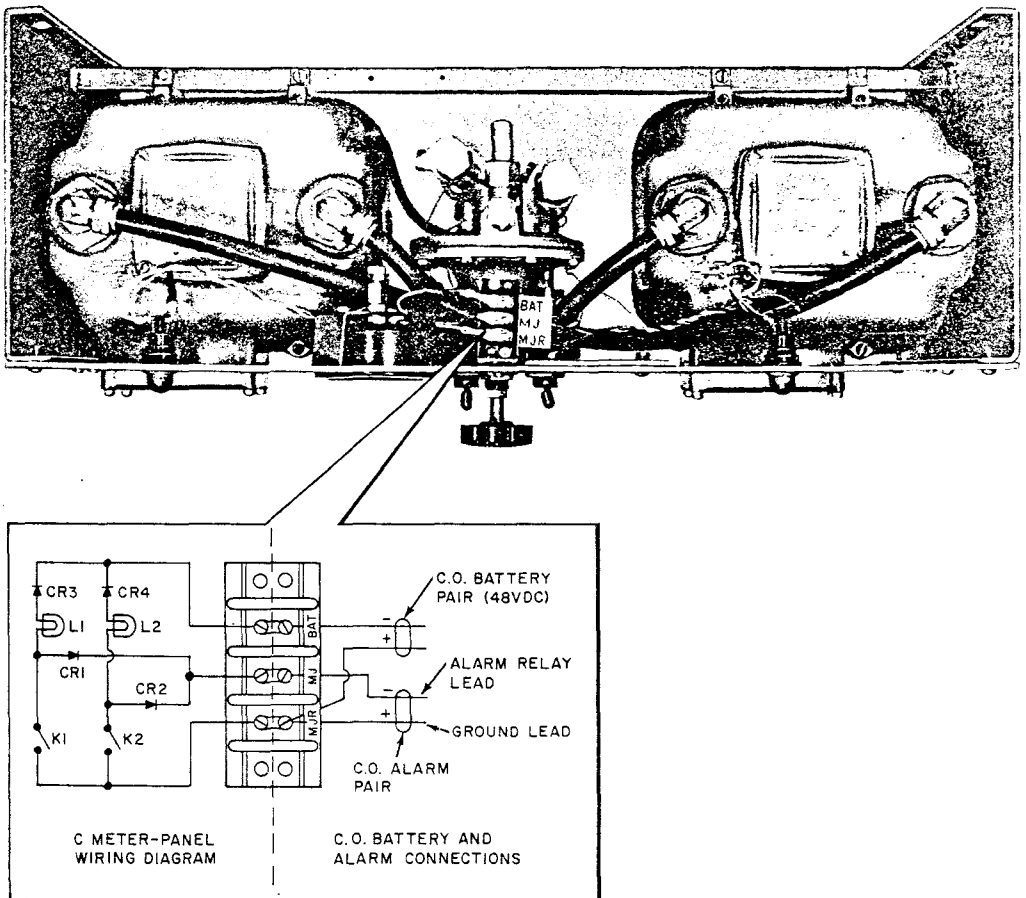

Fig. 8—C Meter-Panel—Top View (Wiring Diagram)
5.07 For *C* meter-panel installations, determine the CO battery and alarm circuits, the polarity of each, and terminate the conductors on the meter-panel terminal strip, as shown in Fig. 8.